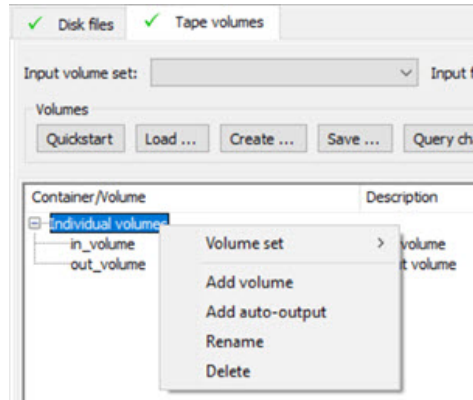

Figure 3-3 Volume Container options
1. Select one of the containers in the tree and right-click. A pop-up window with a list of all options will open (Figure 3-3 below).